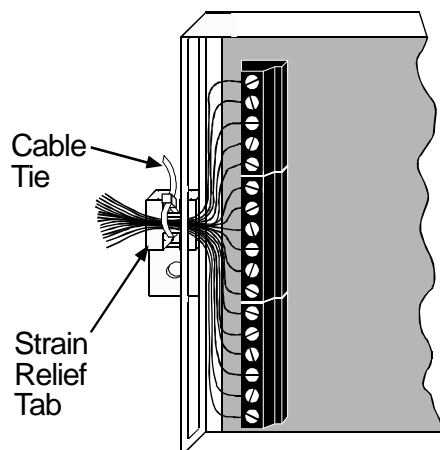

Figure 8: Secure the Cable Tie and Wires
- 4) Wrap the cable tie around the wires and firmly secure the tie to the Strain Relief Tab (see Figure 8).